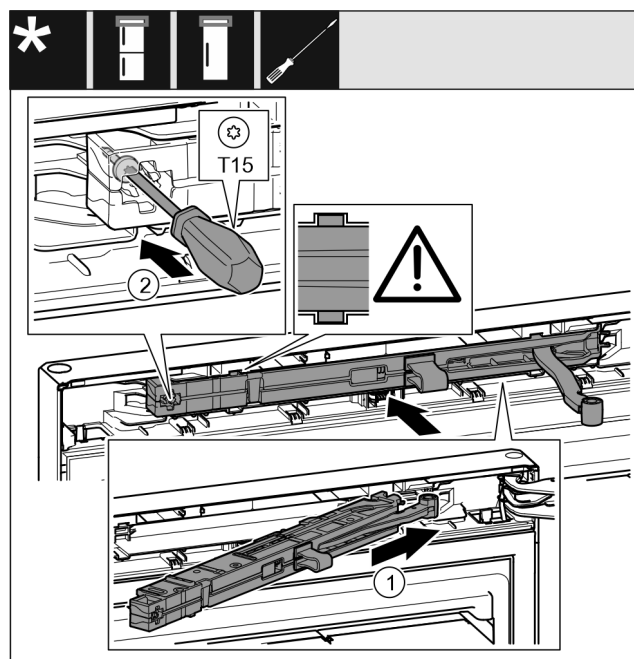

Fig. 24
- On the swap bearing block side, slide the closing damper unit *Fig. 24 (1)* into the recess at an angle up to the stop.
- Use a screwdriver to tighten the screw *Fig. 24 (2)*.